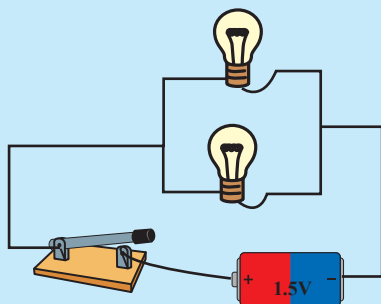

Figure 10.15 ▲
- Connect two parallelly connected bulbs to a switch and a cell as shown in Figure 10.15.